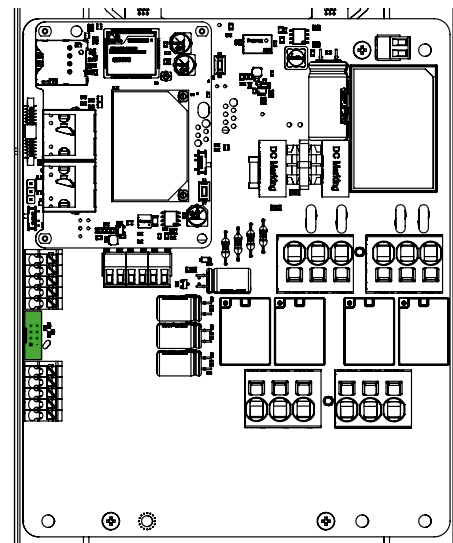

Fig. 17: PilotBox RCM B socket.
1. Connect the device to the dedicated socket on the PilotBox board. [Fig. 17]